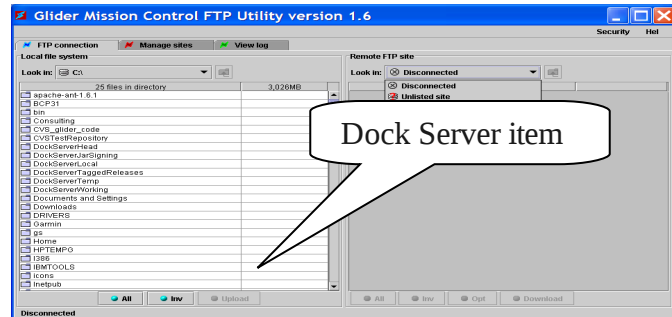

Figure 11-5. Connecting to a Dock Server.
1. Select the item labeled “GMC” followed by your Dock Server machine name in the pull-down labeled “Look in”. Figure 11-5 shows the GMC FTP application connecting to the Dock Server named “expose”.
Figure 11-5 shows the GMC FTP application connecting to the Dock Server named “expose”.